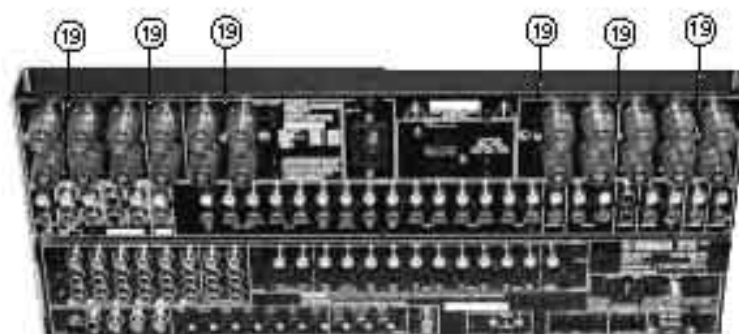
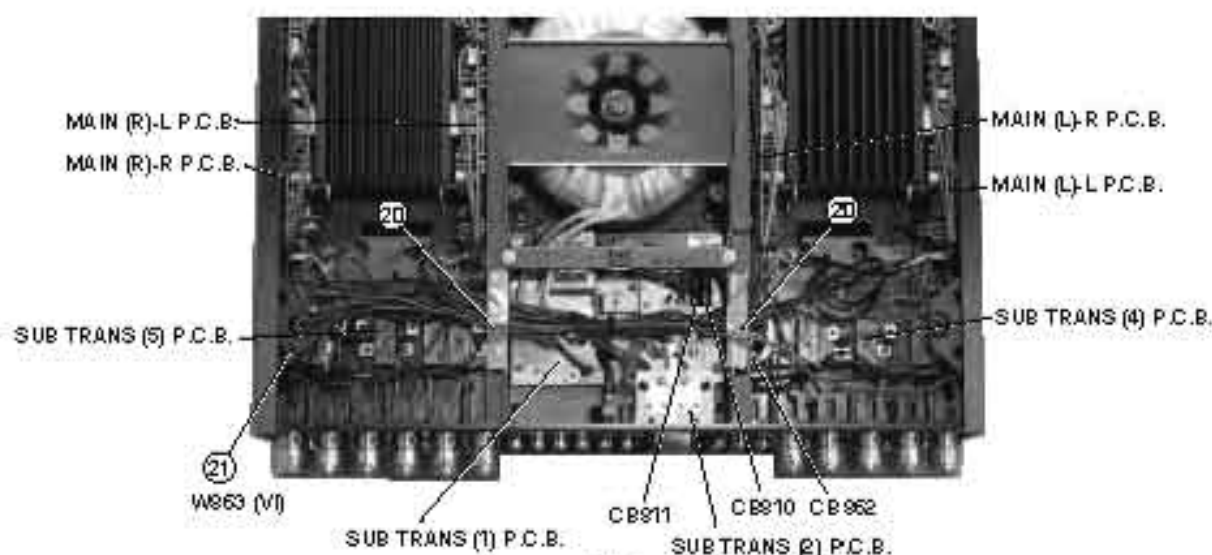

Fig. 8
Fig. 9
7. Removal of SUBTRANS (4) P.C.B. & SUBTRANS (5) P.C.B.
- c. Remove 6 screws (19). (Fig. 8)
- d. Remove 2 screws (20) and 1 screw (21). (Fig. 9)
- e. Remove connectors CB862 (4P), CB810 (13P), CB811 (9P) and CB20 (13P). (Fig. 9, 10)
- f. Remove the SUBTRANS (4) P.C.B. and the SUBTRANS (5) P.C.B. (Fig. 9)
7. SUBTRANS (4) & SUBTRANS (5) P.C.B.の外し方
- c. ⑬のネジ6本を外します。(Fig. 8)
- d. ⑳のネジ2本と㉑のネジ1本を外します。(Fig. 9)
- e. コネクターCB862 (4P)、CB810 (13P)、CB811 (9P)、CB20 (13P)を外します。(Fig. 9, 10)
- f. SUB TRANS (4) & SUB TRANS (5) P.C.B.を取り外します。(Fig. 9)